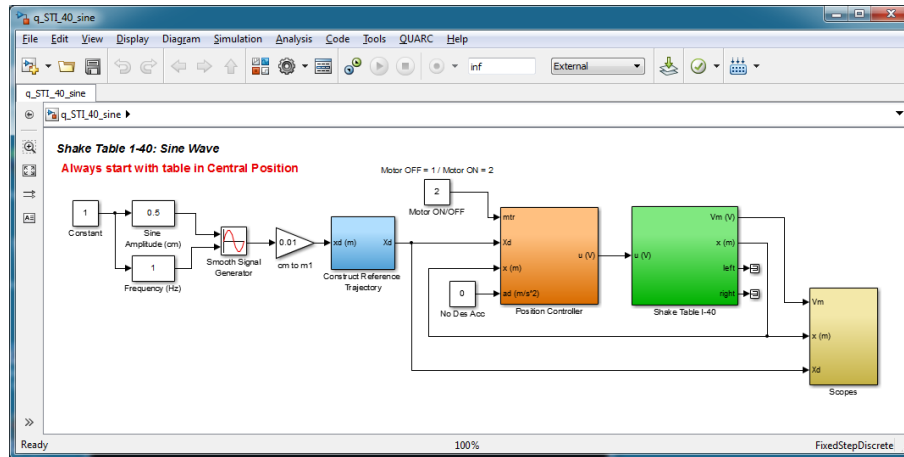

Figure 3.3: Simulink model used to command a sine wave to the Shake Table I-40 using QUARC.
This `q_STI_40_sine` controller commands a sine wave to the Shake Table I-40 for the stage to track. The `q_STI_40_sine` Simulink diagram is shown in Figure 3.3. The user can specify the amplitude and frequency of the sine wave on-the-fly and read corresponding position and acceleration measurements.
2. Open the `q_STI_40_sine.mdl` Simulink model open, shown in Figure 3.3. For more information on configuring `q_STI_40_sine`, see Section 5.4.